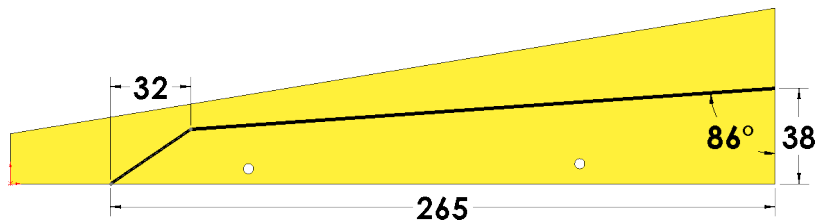

Fig. 9
Step 8. Add dimensions as shown in **Fig. 9**. First, dimension the end of the rear line to the bottom edge of body **38**. Dimension the angle **86° degrees** between the line and rear edge of the body. To Smart dimension the angle, click line and edge, then move the cursor down inside the angle and click. Key-in **86** for the dimension and press ENTER. Add the other dimensions.